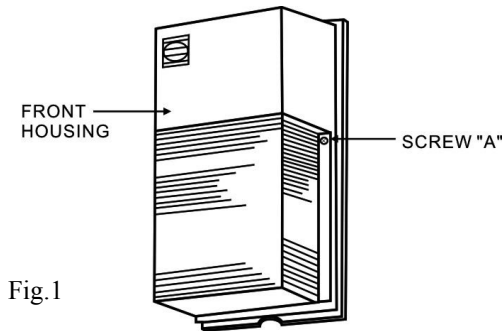

Fig.1
- 1. REMOVE FRONT HOUSING (Fig. 1)**